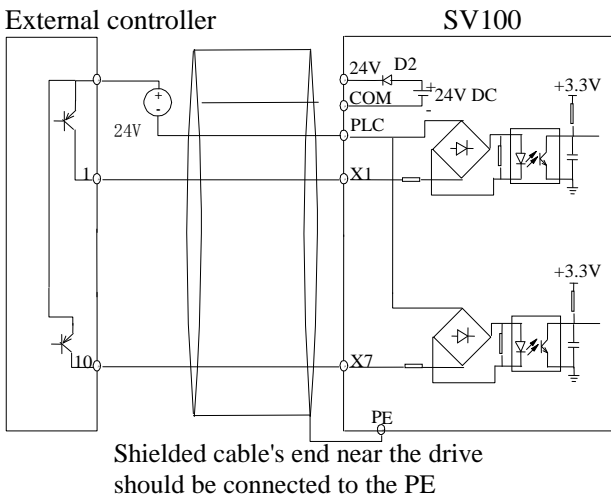

Fig 4-12 Drain connection if using the external power supply
4) Drain connection if use the external power supply (Make sure the PLC and 24v terminal is disconnected). As shown in the fig 4-12